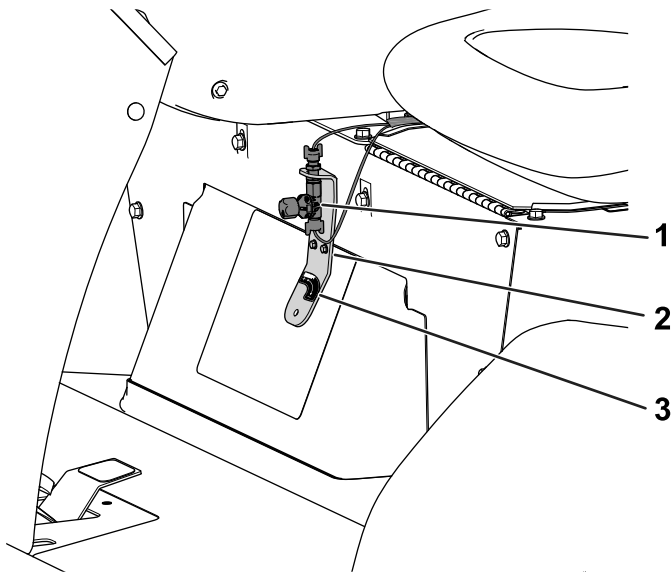
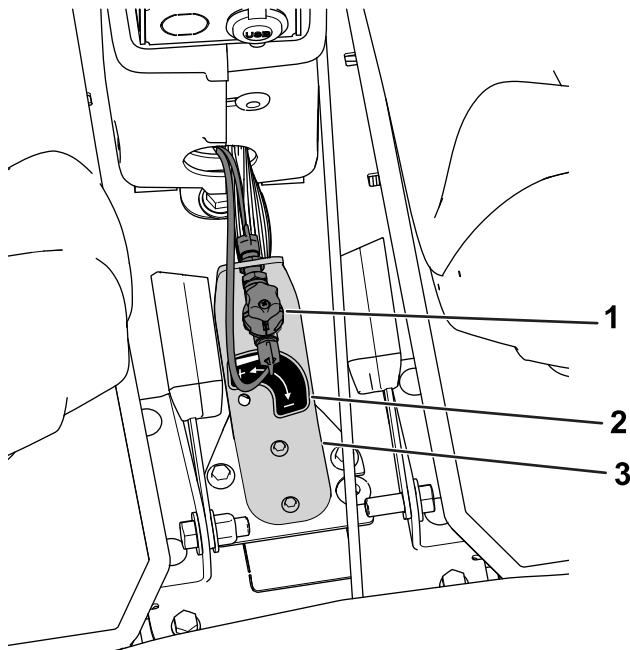

Figure 11
Figure 12
6. Install the decal as shown in Figure 11 or Figure 12.